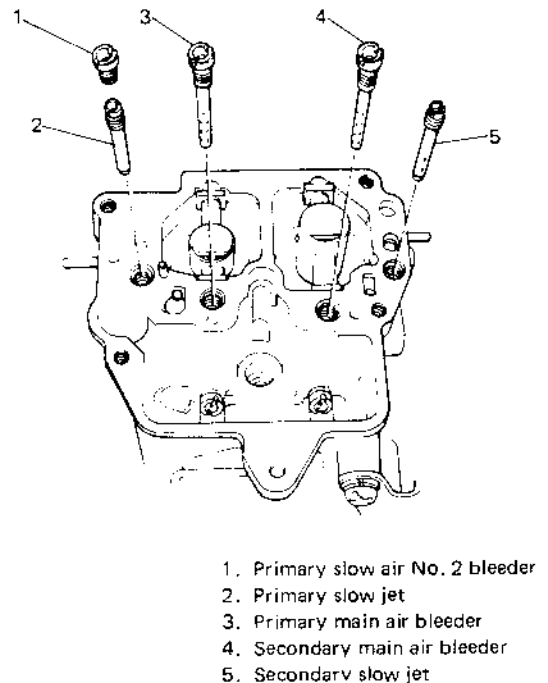

Fig. 4-1-34 Installing jets and air bleeders
8) Install jets and air bleeders to float chamber. Refer to Fig. 4-1-34 for their installation.